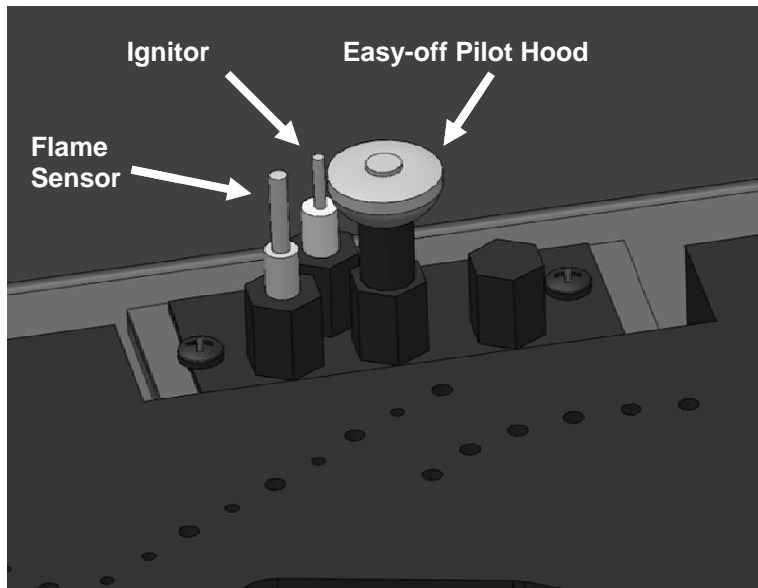

Figure 2
6. Locate the pilot assembly inside the right side of the firebox (see *Figure 2*). Remove the easy-off top of the pilot burner hood by grasping it and pulling it up, and off the pilot assembly.